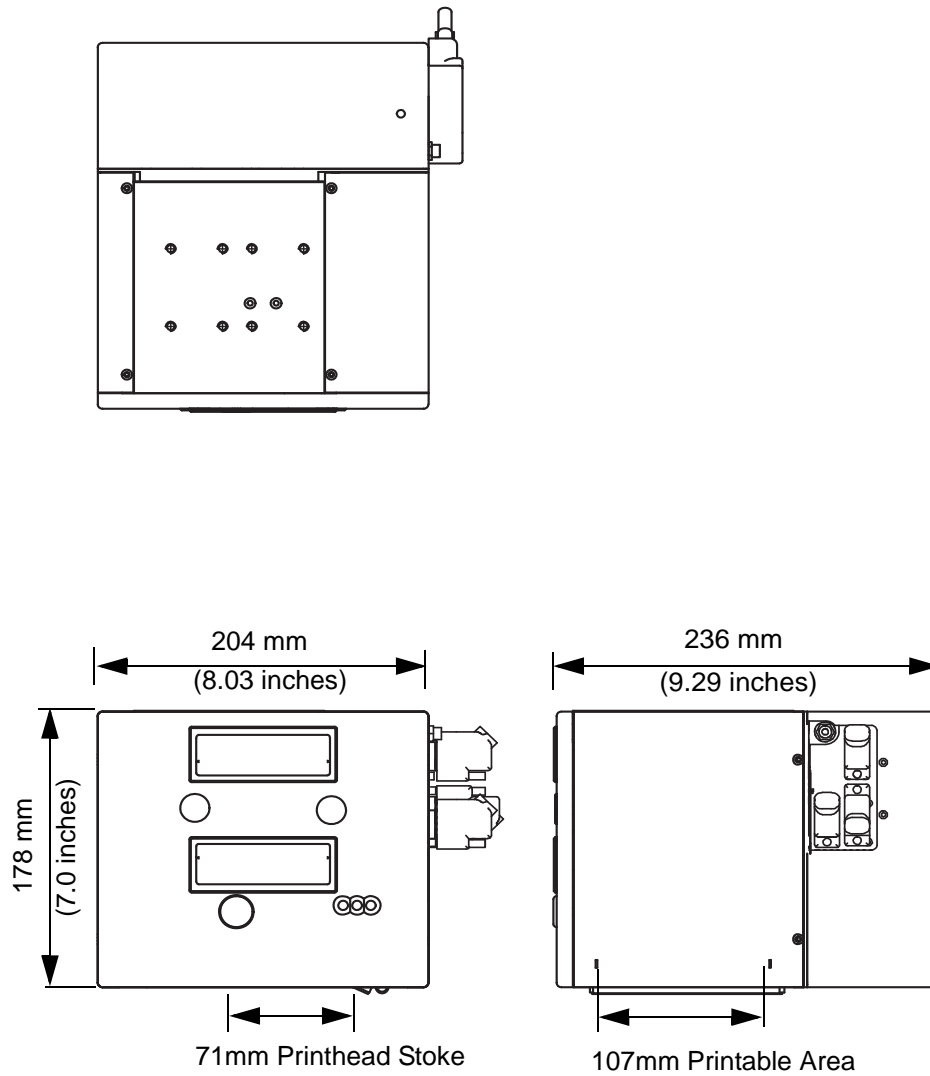

Figure 7-4: DataFlex Plus 107mm LH Printer Dimensions
Figure 7-4 shows the dimensions of the DataFlex Plus 107 mm (LH) printer.